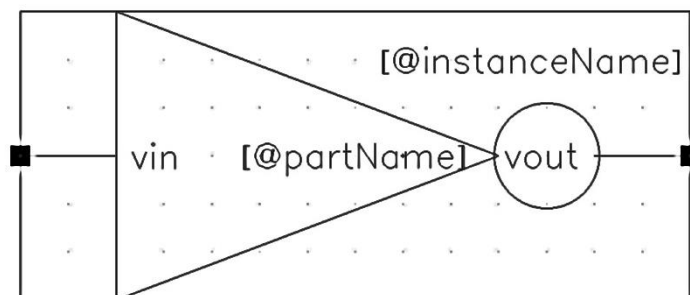

Figure 1.7: Inverter Symbol
2. Use the polygon and other options to create a final symbol that should resemble the Fig.1.7